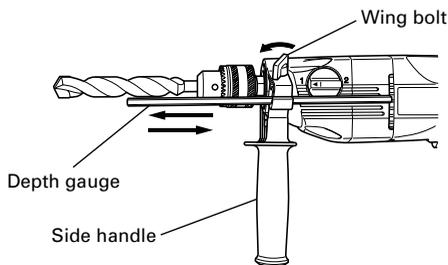

Fig. 7
**7. Fixing the side handle (Fig. 7)**